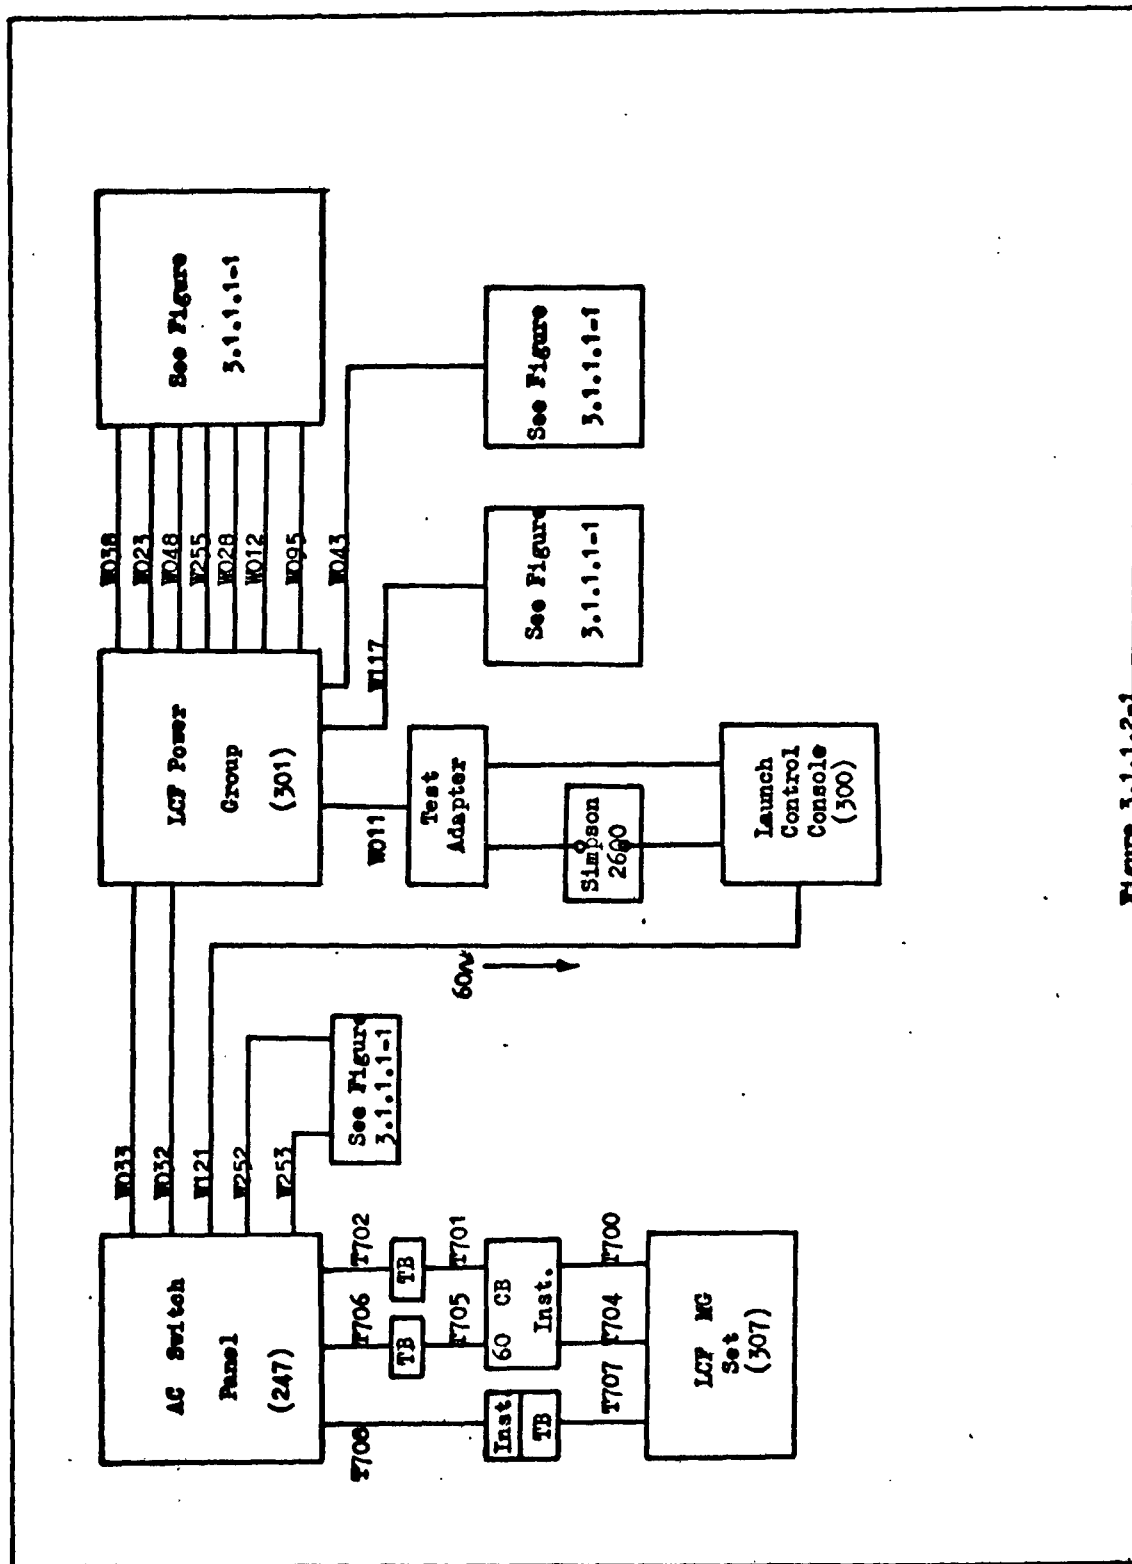

Figure 3.1.1.2-1
3.1 Connect the equipment per Figure 3.1.1.3-1.